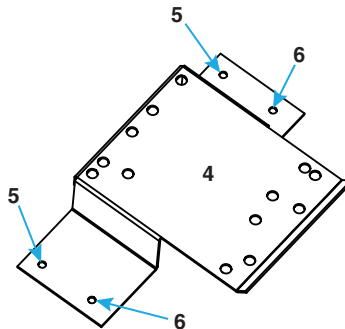

Figure 2. Replacement Motor Support
- (1) For model CAUA, do not remove existing motor support or any other damper linkage.
- (2) For all models **except** CAUA, remove existing motor support and keep all linkage.
3. For all models except CAUA, install replacement motor support (4) in same location using screws (5 and 6) as shown in Figure 2.